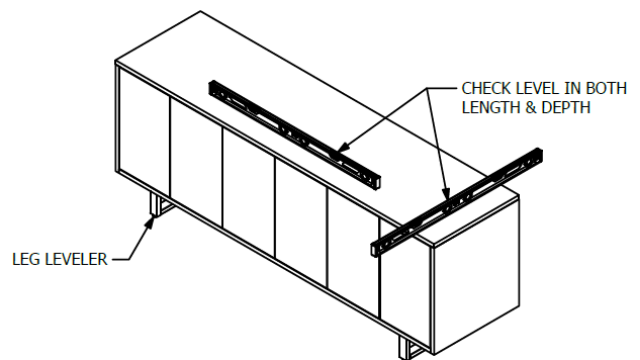

FIG. 03:
1. With Credenza in its final position, use a level to adjust the leg levelers and level the Credenza. See Figure 03.